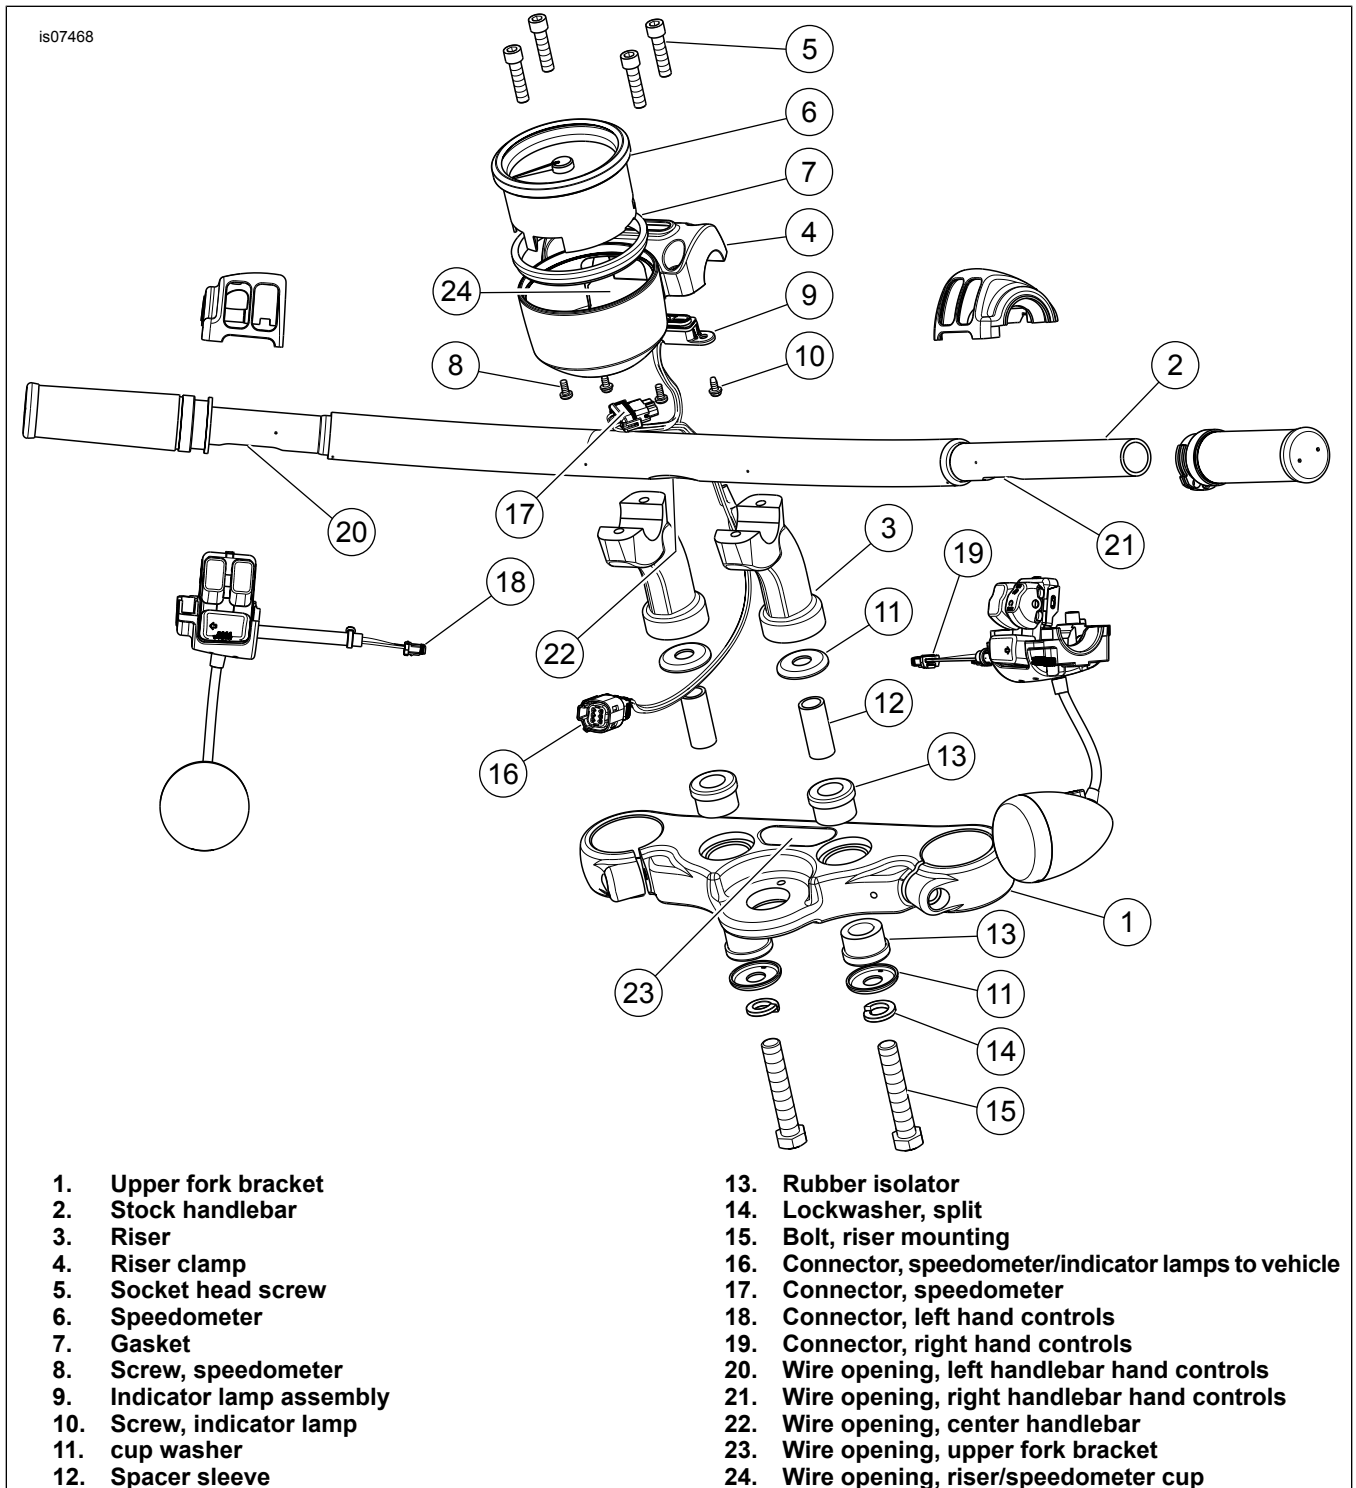

Figure 1. Stock Handlebar Removal
5. See Figure 1. Note the wire colors and positions in each cavity of the connector housing leading from the speedometer and indicator lamps (16). See the correct connector section in the service manual appendix to remove the wires from the six-way MOLEX housing.